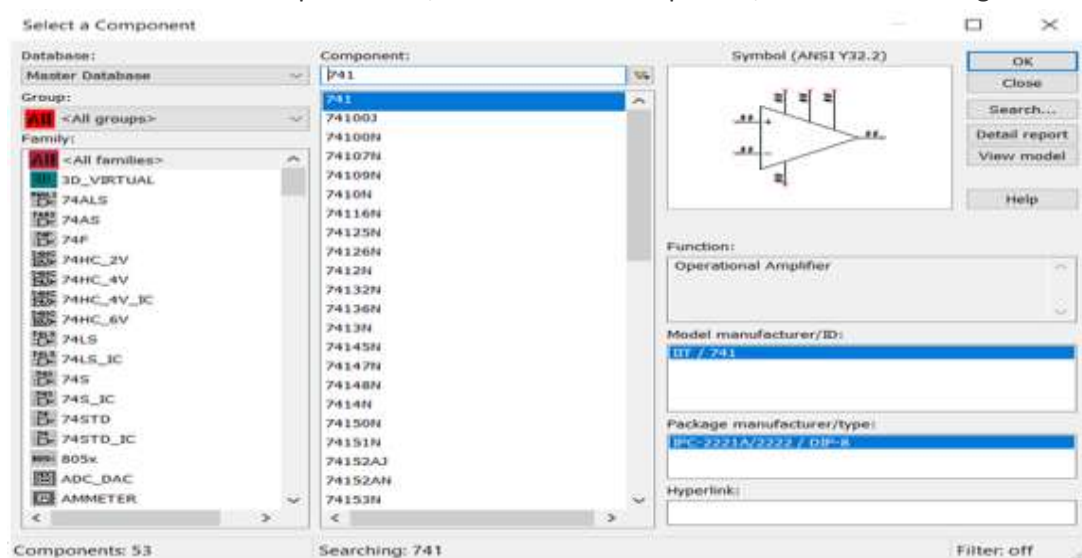

Figure 3: Opamp 741 selection
- From the drop down list, select the 741 component, as shown in the figure 3